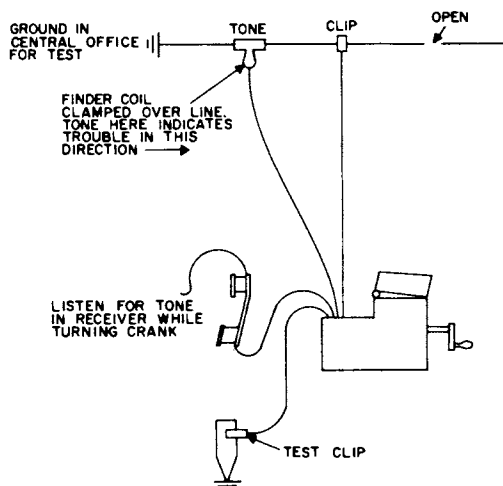

Figure 10. Connection for open.
- b. Attach one test clip to the wire being tested and the other end to an earth ground (figure 10).